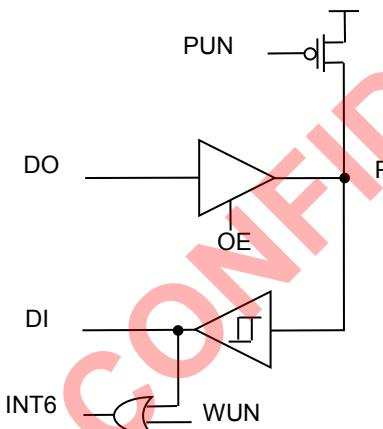

Figure 11.1 Ports I/O block diagram
A9112 has 24 Digital I/O Pins. There are separated to 3 Ports (Port0, Port1 and Port3) and each of the Port pin can be defined as general-purpose I/O (GPIO) or peripheral I/O signals connected to the timers, UART, I2C and SPI functions. Thus, each pin can also be used to wake A9112 up from sleep mode. User can select each pin function by setting register. Each port has itself port register like P0 (0x80), P1 (0x90) and P3 (0xB0) that are both byte addressable and bit addressable. When reading, the logic levels of the Port's input pins are returned. Each port has three registers to setting Pull-up (PU), Output-enable (OE) and Wake-up enable (WUE). As shown the bellow block diagram, Fig. 11.1. Unused I/O pins should have a **defined** level and not be left floating. One way to do this is to leave the pin unconnected and configure the pin as a general-purpose I/O input with pull-up resistor.